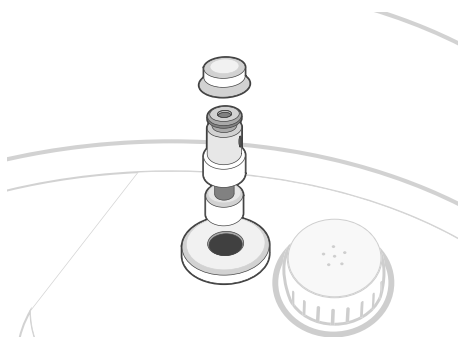

Figure 10.3
- c. Remove the silicone cap from the float valve. The float valve may drop out unexpectedly without the silicone cap, so remove carefully. [Figure 10.3]